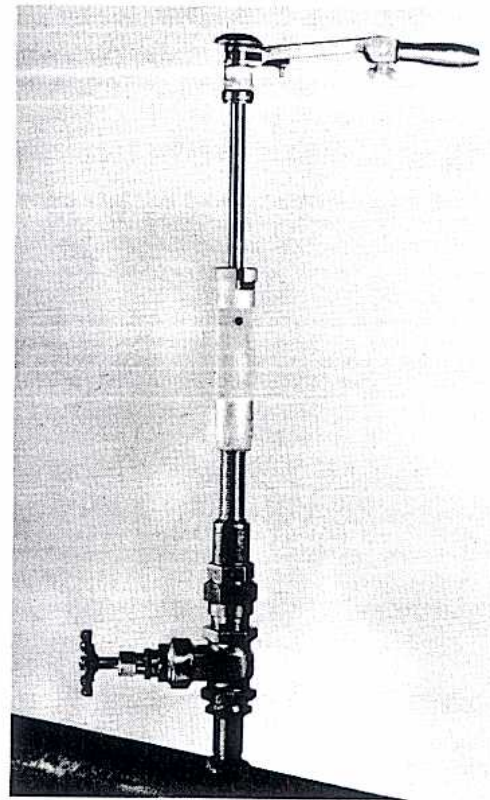

FIGURE 46
8. Place drilling machine on gate valve and tighten machine adapter nipple into gate valve. FIGURE 46.